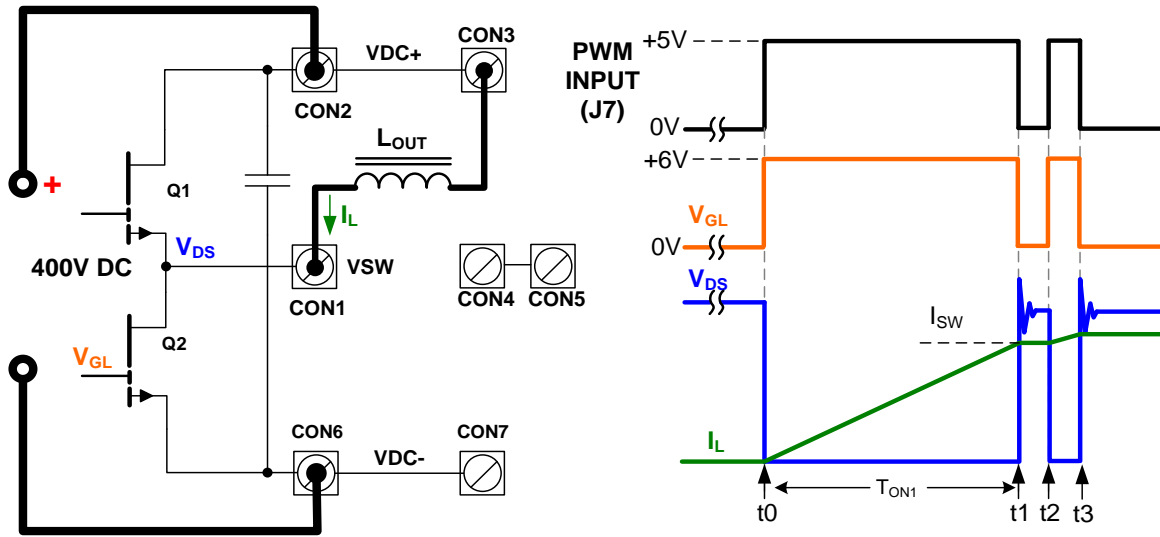

Figure 14 Double pulse test setup
The circuit configuration and operating principle can be found in Figure 14:
- d. Set High voltage (HV) DC supply voltage to 0V and ensure the output is OFF. Connect HV supply to **CON2** and **CON6**.
- c. Set up signal generator to create the waveforms as shown in Figure 14. Use equation $I_{sw} = (V_{DS} * T_{ON1}) / L$ to calculate the pulse width of the first pulse and ensure the I_{sw_max} is $\leq 30A$ at 400VDC.